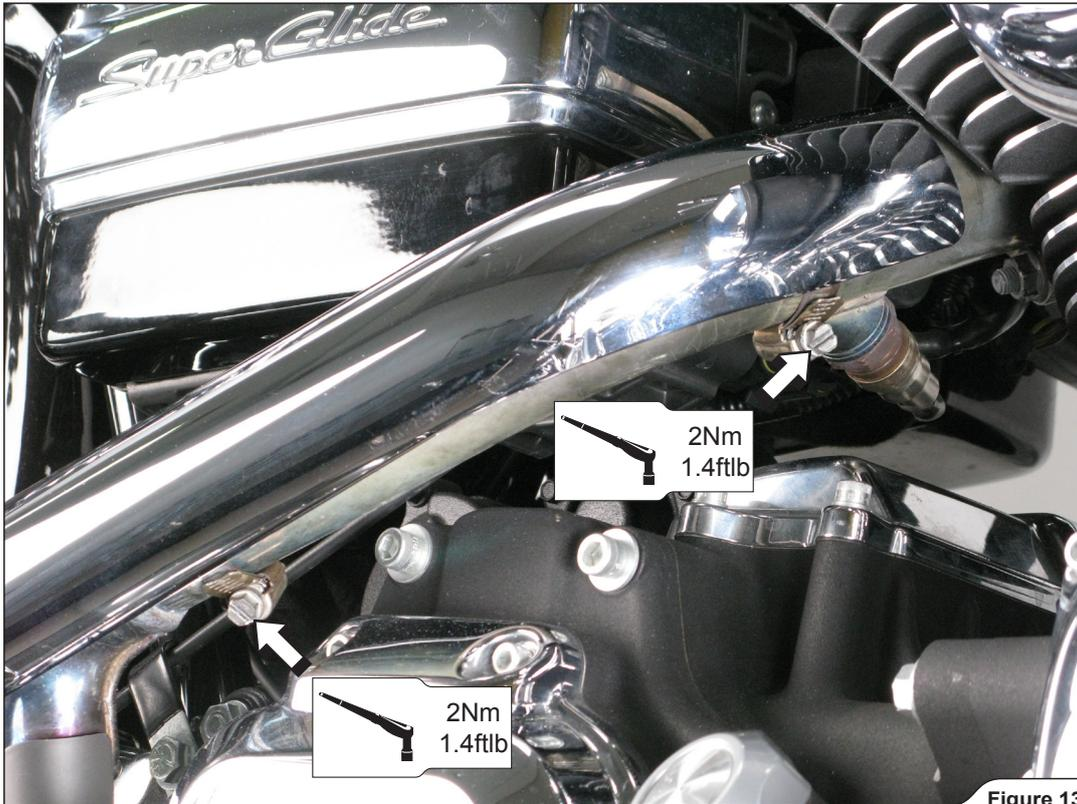

Figure 13
- Carefully assemble the original heat shield back onto the header, align it and tighten tape clamps to the specified torque (Figure 13, 14).